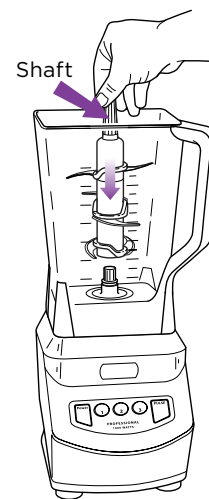

Fig. 3
- 4 Holding the blade assembly by the shaft, place it onto the gear shaft inside the pitcher. (Fig. 3) Ensure that the blade assembly fits snugly around the gear shaft and that the blade shaft is standing straight.